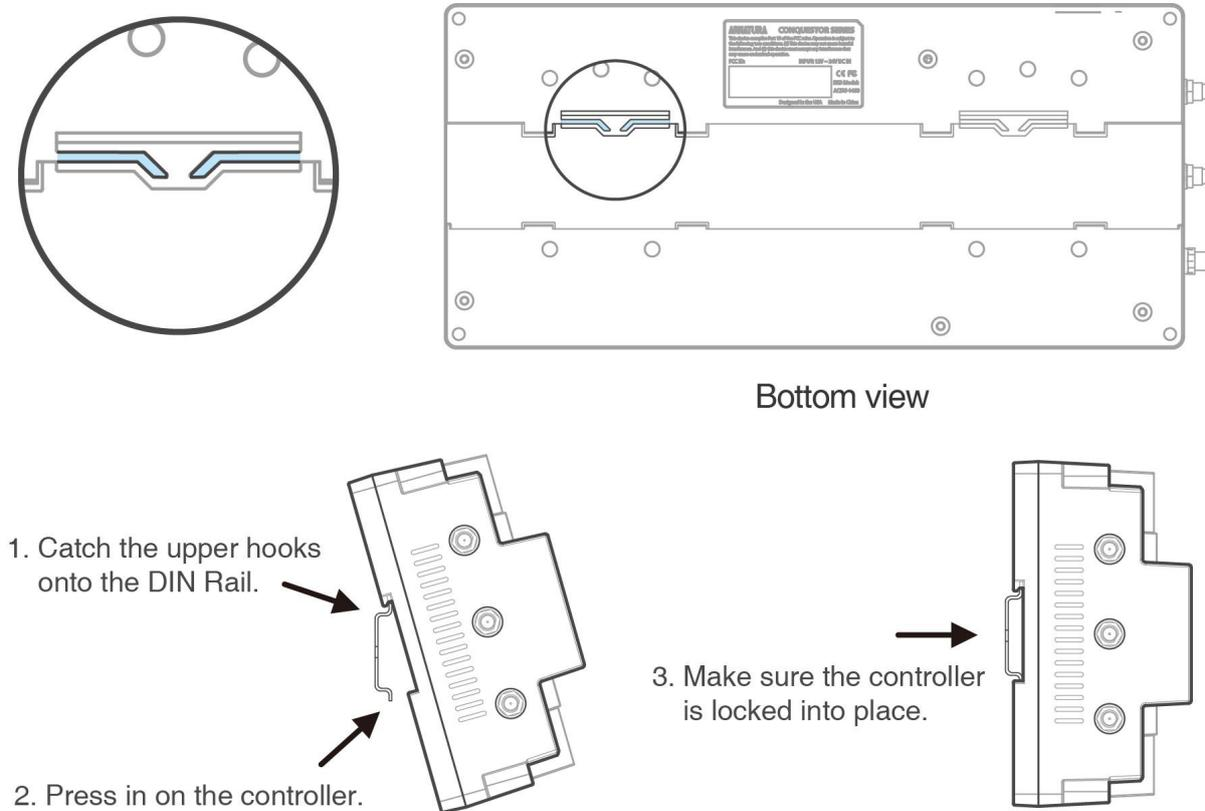

Figure 3-4 Mount the controller to the DIN rail adapter
- Engage the hooks on the top of the controller with the DIN rail and firmly press the controller onto the rail until it locks into place, as depicted in **Figure 3-4** below.